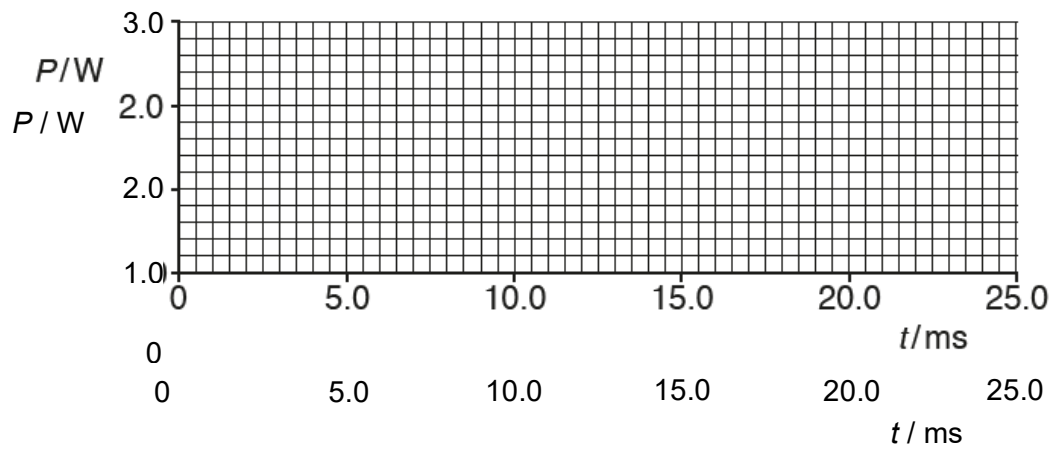

Fig. 6.3
- (ii) On Fig. 6.3, sketch the variation with time t of the power P dissipated in the resistor for $t = 0$ to $t = 22.5$ ms.